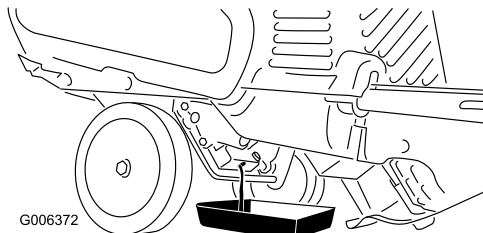

Figure 28
3. Place an oil-drain pan under the oil-drain plug, remove the plug, and tip the machine backward and drain the used oil in the pan (Figure 28).